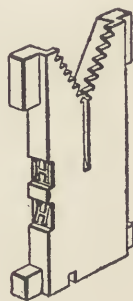

FIG. 32.
"That was caused by the bar pawl (4) being worn. You have noticed, I presume, that all matrices have a groove down the center on the left-hand side (see Fig. 32) deep in the thick matrices, shallow or not at all in thin ones. As a space wide enough for the thickest matrix to be lifted to the distributor bar might permit two thin ones sticking together to be raised at one stroke, all matrices are cut to a uniform thickness at this point, and a pawl (4) which stands in their path above the matrix lift (1) enters this groove and will allow only one to pass at a time. If the point of the pawl wears off or the upper or lower rails in the distributor box wear enough to allow two thin matrices to pass, these parts must be renewed. The point of the lift (1), although case-hardened steel, will also wear, and will then have a wide enough seat to pick up two thin matrices at a time. Of course, a new lift must then be put in."
“Look at the matrix first. You see each matrix bears two characters (Fig. 32), the roman letter in the usual position and the same letter in italic below it. The small-caps. are doubled up with the figures, and the italic figures made to run as side sorts in the pi box. The lever (*D*) in the assembler is attached to a plate (*C*) which works in a slot in the assembler and projects inside the box when the lower end of the lever is drawn forward. This plate then supports the matrices at a higher level than ordinarily so as to bring the italic faces in line with the roman faces of such words as are to be set in roman. The plate is in two sections, the right-hand end being a short piece having a shift-key (*F*) of its own. This is so that after setting the italic or small-cap. word, that portion of the plate can